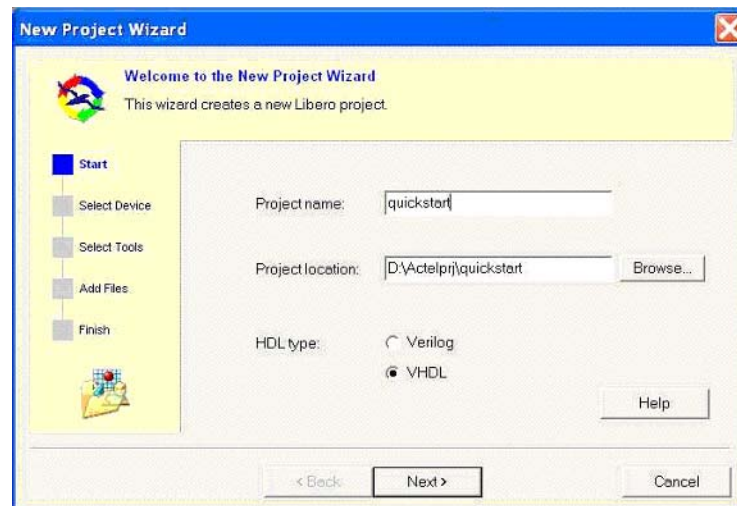

Figure 7-1 • New Project Wizard in Libero IDE
2. From the **File** menu, select **New Project**. This displays the New Project Wizard, as shown in Figure 7-1.